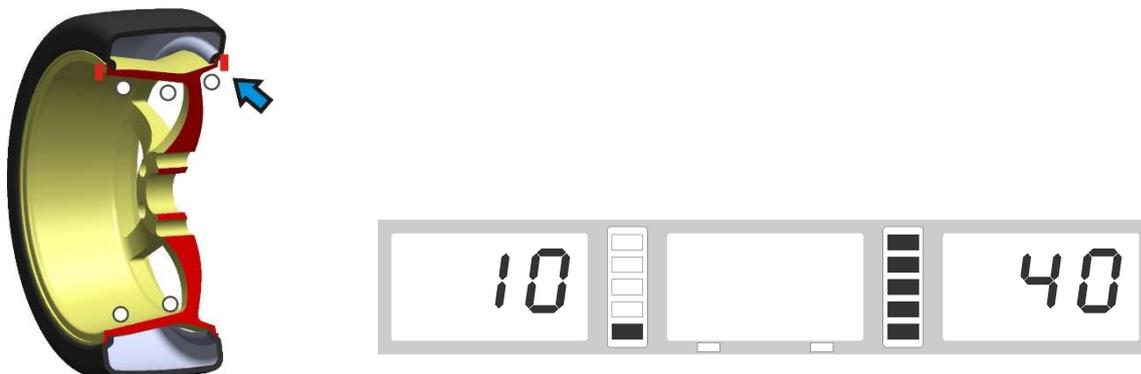

Fig. 3
- If you slowly turn the wheel anticlockwise, the right display with fully lit LEDs shows the correct angular position in which the balancing weights (12 o'clock position) must be attached on the outside (see **Fig.3**).